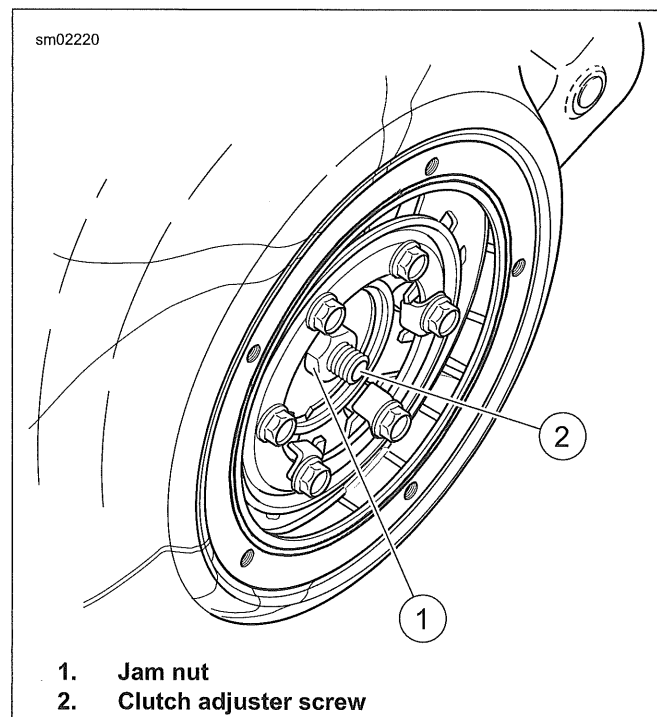

Figure 2-27. Clutch Adjuster Screw
- c. See Figure 2-27. Loosen jamnut (1) on clutch adjuster screw. Turn adjuster screw (2) inward (clockwise) until lightly seated.